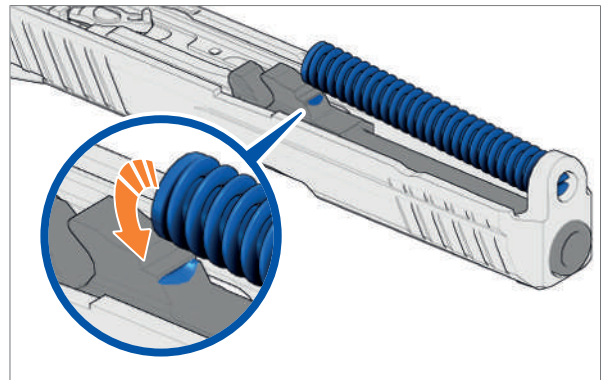
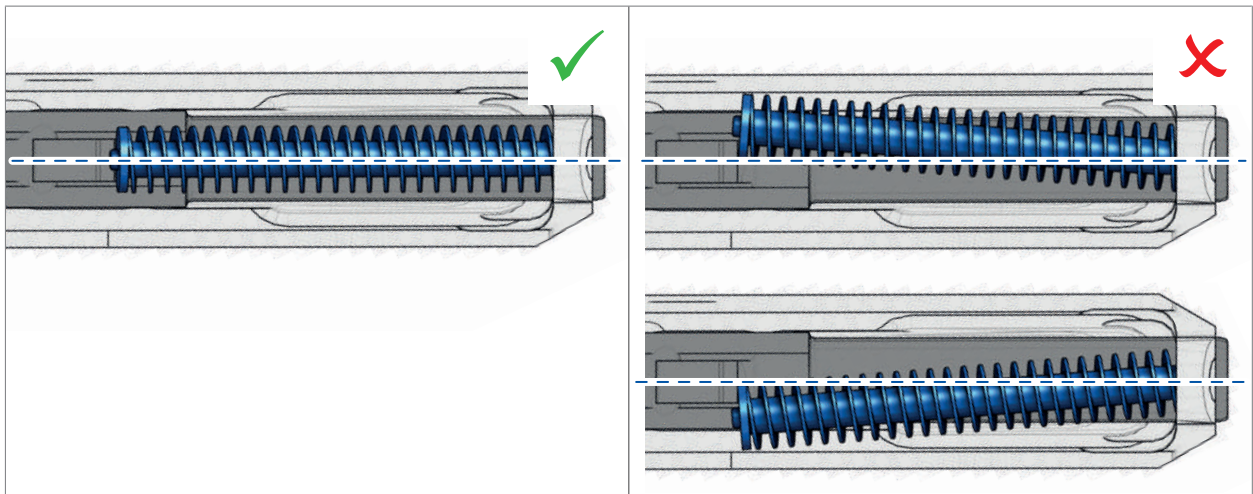

Fig. 68: Rest recoil spring
Fig. 69: Installation position of recoil spring
4. Brace recoil spring on the control surfaces on the barrel (*Fig. 68*). Note installation position of recoil spring (*Fig. 69*).